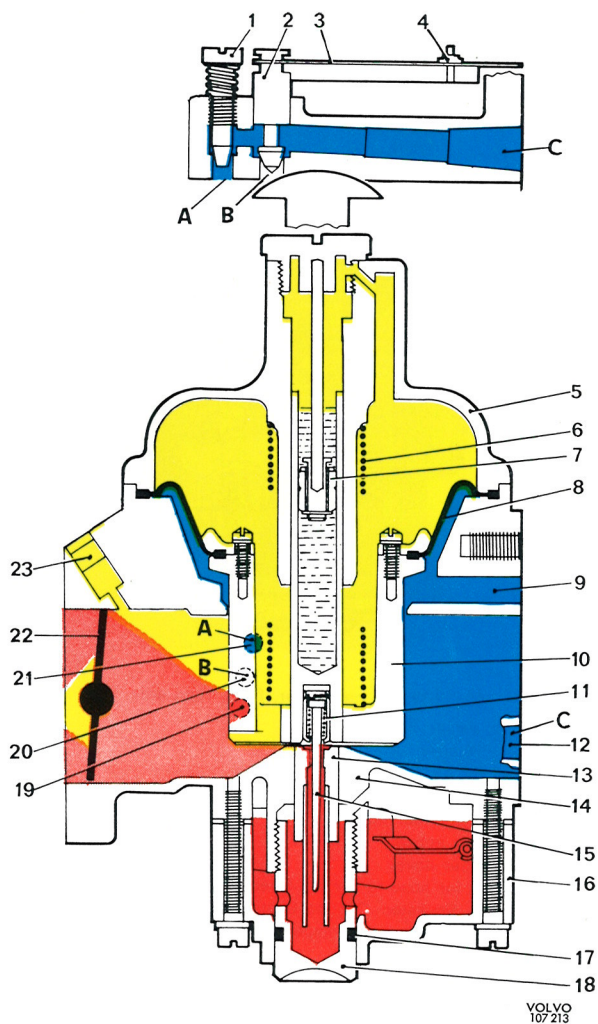
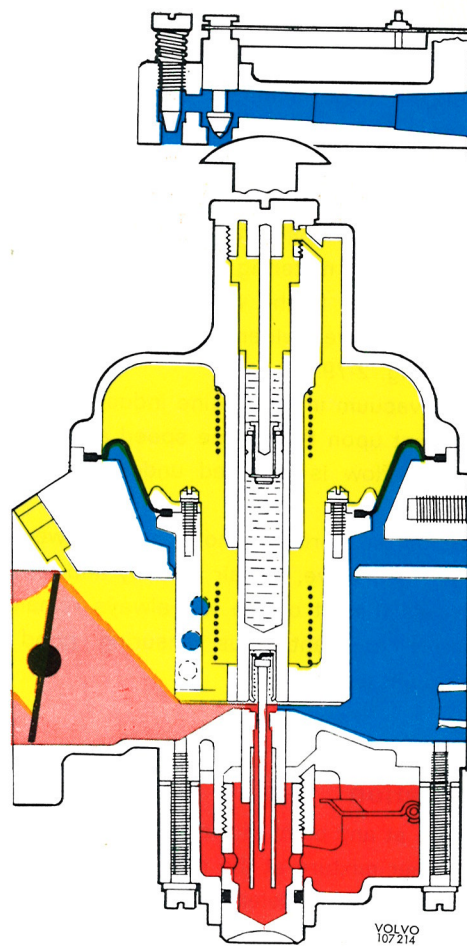
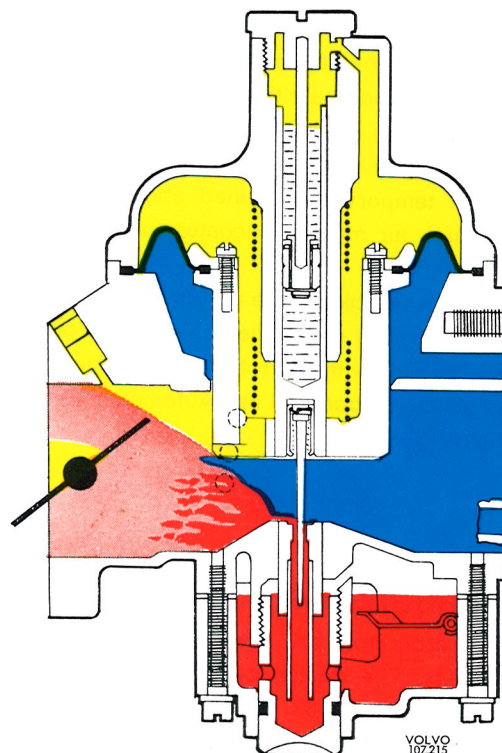

Fig. 2-77. Cold starting, principle
Fig. 2-78. Idling, warm engine
Fig. 2-79. Normal operation
When the engine is idling, the vacuum in the carburetor suction chamber is low and the column between the air valve and the bridge will be small (see Fig. 2-78). At this stage, the thicker section of the metering needle is in the jet and thus only a small quantity of fuel, corresponding to idling requirements, is sucked into the engine. The temperature compensator (Fig. 2-77) is regulated by a bi-metal spring (3) which influences a valve (2). When the engine is warm and the temperature in the carburetor rises, the valve opens and air is supplied to the carburetor venturi to compensate for the increase in the fuel flow, which is obtained due to the alteration in the fuel's viscosity, see Fig. 2-78. Fine adjustment of the engine idling speed can be made with the idle trimming screw (1, Fig. 2-77).
When the throttle flap opens, approximately the same vacuum is obtained in the suction chamber as in the engine intake manifold. Due to the pressure difference between the underside of the air valve, where there is pressure in the carburetor inlet port, and the upper side of the valve, where there is vacuum, the valve lifts from the bridge. This also lifts the tapered metering needle (15, Fig. 2-77), which is attached to the valve, out of the jet. The effective choke area widens and increases the fuel flow. See Fig. 2-79.
When the air valve (10, Fig. 2-77) lifts, the damper plunger (7) is forced against its seat and oil is prevented from flowing past the lower side of the damper plunger from the upper side, and this retards the movement of the valve (10). A more powerful vacuum is temporarily obtained above the jet so that the fuel-air mixture becomes for the moment richer.